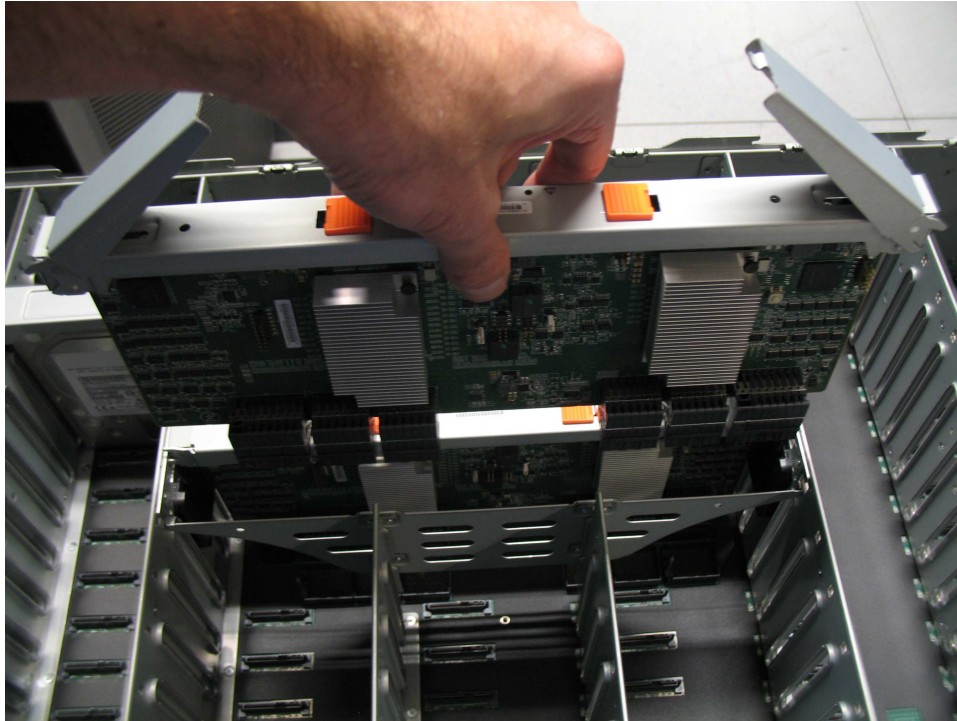

Figure 67. Replace the secondary expander module
- 4. Carefully align the edges of the secondary expander module in the guide slot in the enclosure, as shown in Figure 67 on page 82.